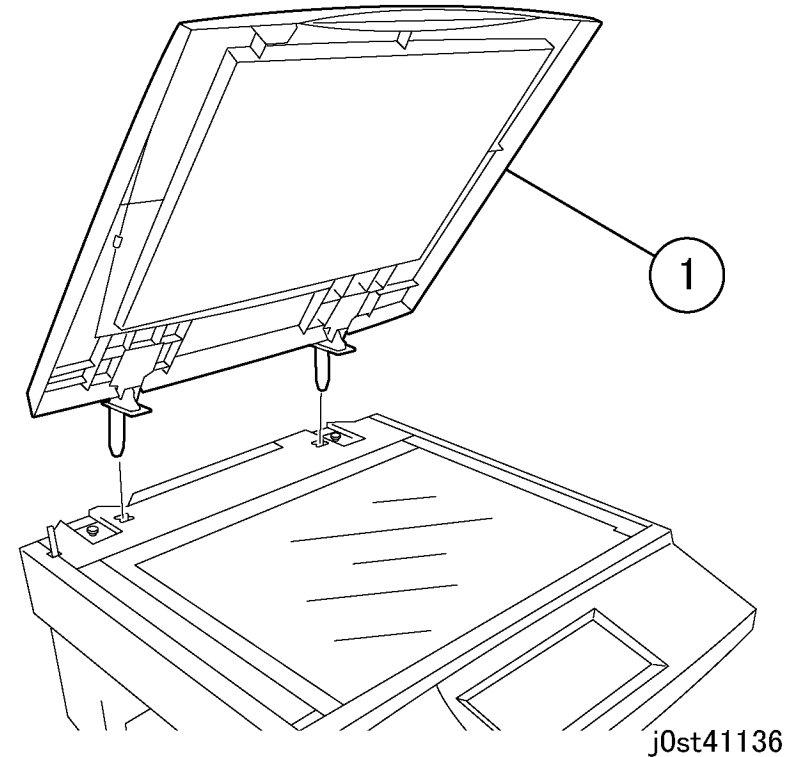

Figure 1 Removing the Platen Cover
2. For the Platen models, remove the Platen Cover (Figure 1).